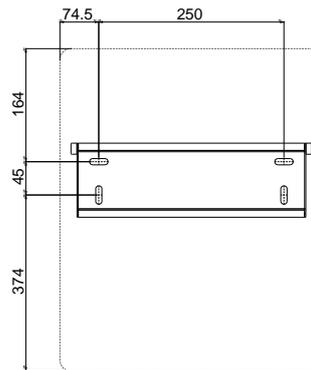

FIG.6-6 Drilling Positions (W x H, 399 x 583mm)
1) Use the wall-mounting bracket as a template and mark the positions of the drill holes, then drill the 4 holes accordingly, as per FIG. 6-6. (Diameter = 11mm, Depth \geq 55mm).
Note: The external dimensions (W \times H) of inverter are shown as dash line in FIG. 6-6.